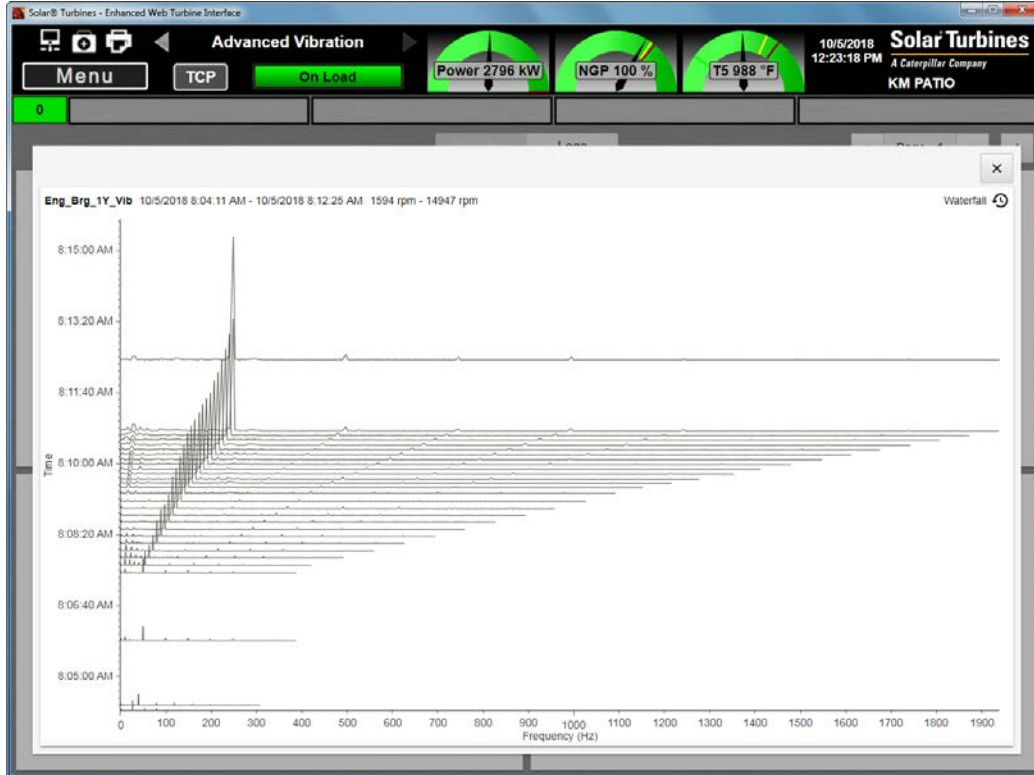

Figure 11. Waterfall Plot
5. The Waterfall plot (Figure 11) shows individual spectrums displayed over a change in time.